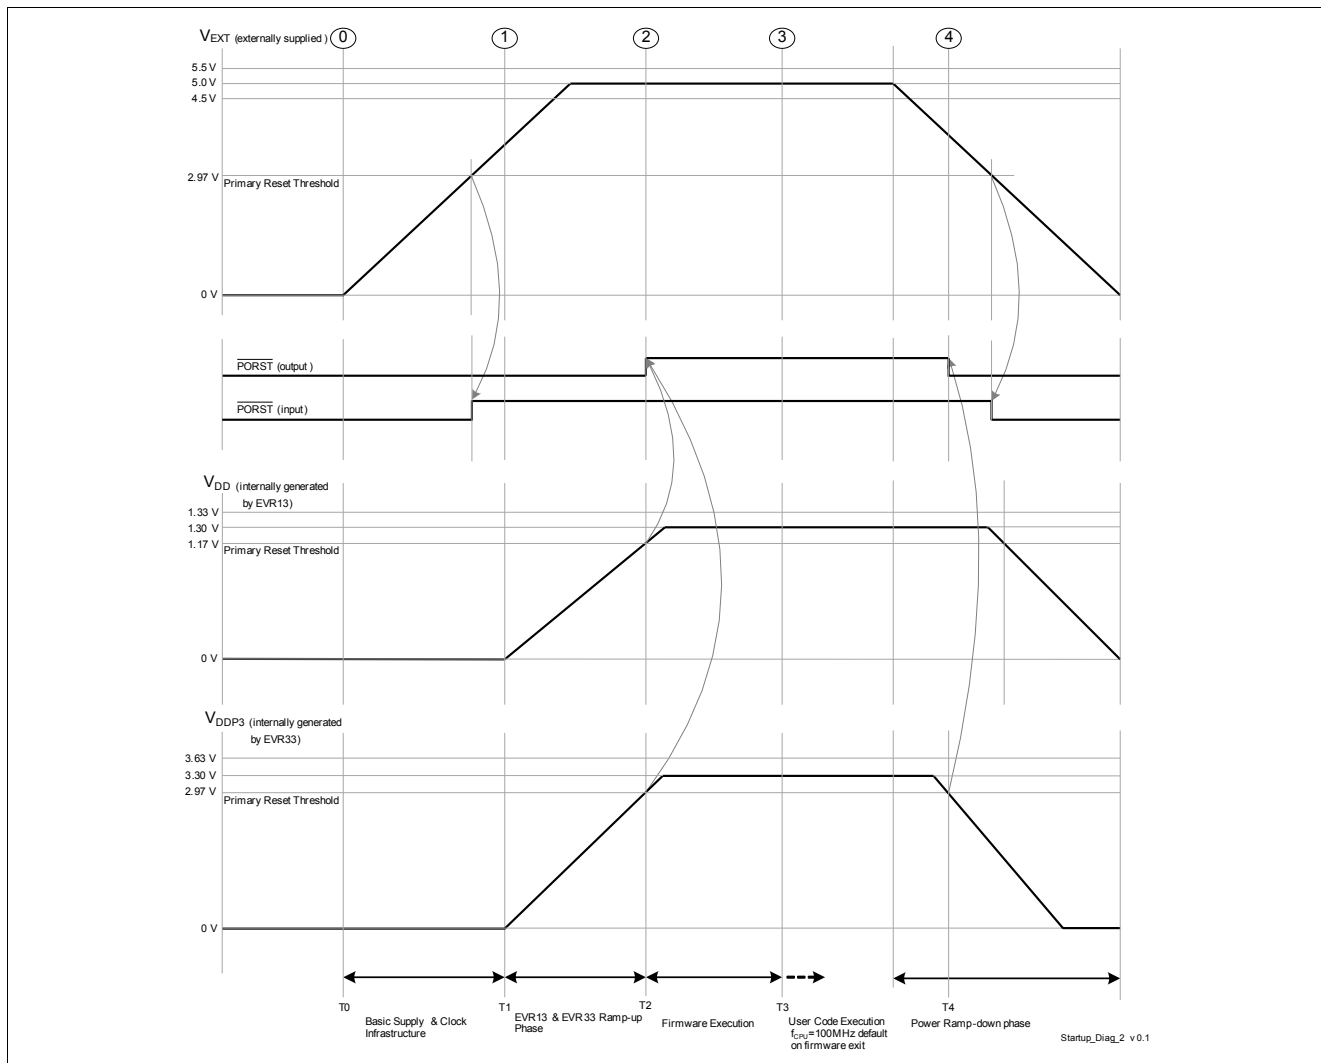

Figure 3-5 Single Supply Mode - 5 V single supply
- The power sequence as shown in Figure 3-5 is enumerated below